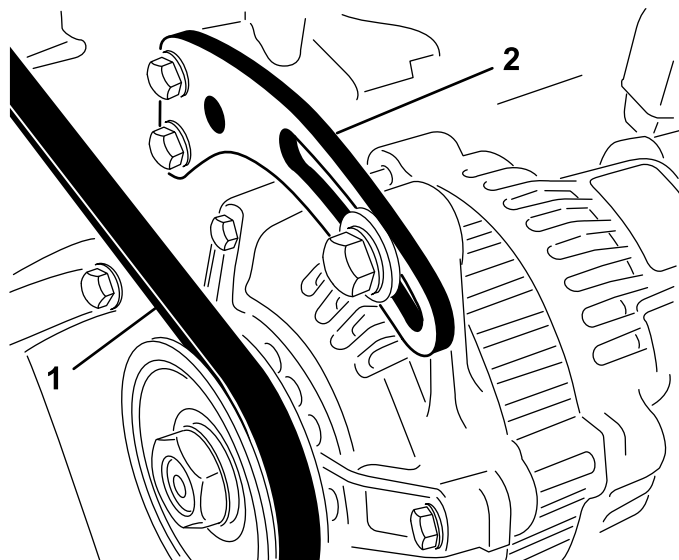

Figure 56
1. Loosen alternator mounting bolts. (Figure 56).